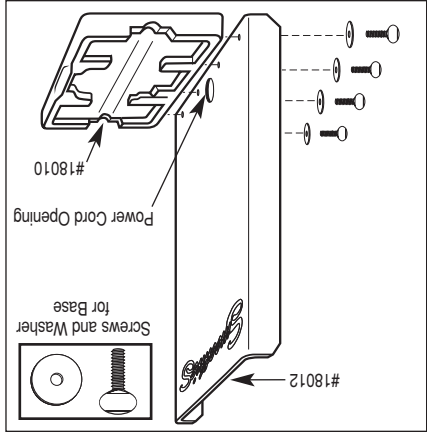

Figure 3
3. Place Base on flat surface. Make sure all eight (8) rubber feet are securely in position so the Base is level.
4. Place the Back Panel against the back of the Base while aligning with the screw holes as shown in Fig. 3. (The Panel should be mounted flush with the countertop.) Insert the screws and washers from the backside of the Back Panel and hand-tighten until Panel is securely attached to the Base.
6. Place a Vita-Mix® Blending Station® or Drink Machine/BarBoss in the center cavity of the Base and insert machine power cord through circular opening in the Back Panel (see Fig. 3). Follow the machine's manual for normal operation. **Note: Use only Vita-Mix approved equipment in the display.**